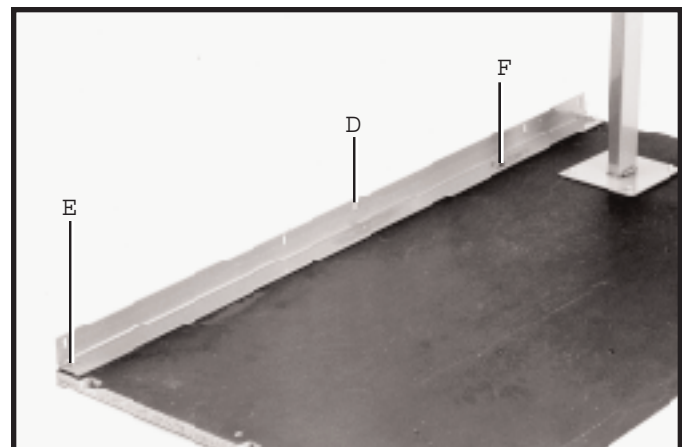

Fig. 7
5. Fasten the front table support (D) Fig. 7, to the bottom of the table as shown, using two #14 x 3/4 inch-long screws (E) and (F) supplied. NOTE: The slots closer to the bend in the support should be against the table. Do not completely tighten the two screws at this time. IMPORTANT: SCREW (E) MUST BE REMOVED AND REINSTALLED WHEN ASSEMBLING UNIFENCE TABLE TO SAW (REFER TO PAGE 6).